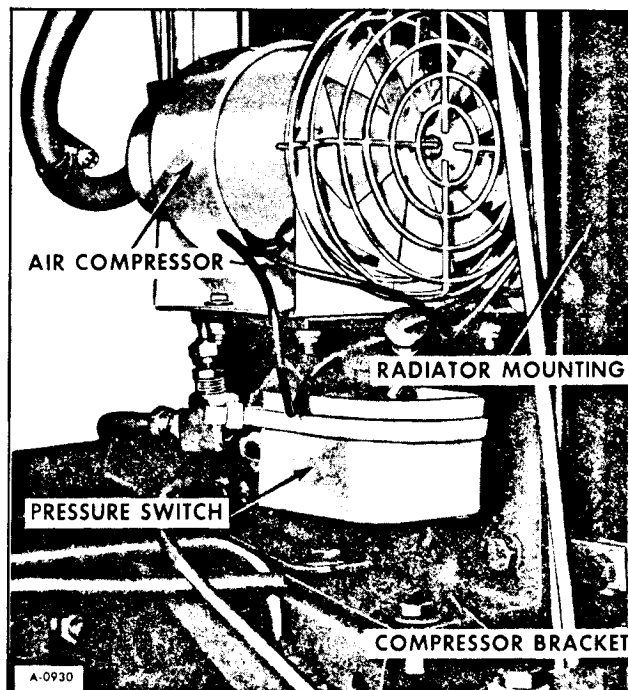

Figure 4—Air Compressor Installation
4. Referring to Figure 4, Remove three bolts on vertical bracket to radiator mounting. (There are weldnuts on inside of radiator mounting.)
8. Referring to figure 4, remove four nuts and bolts from compressor mounting bracket.